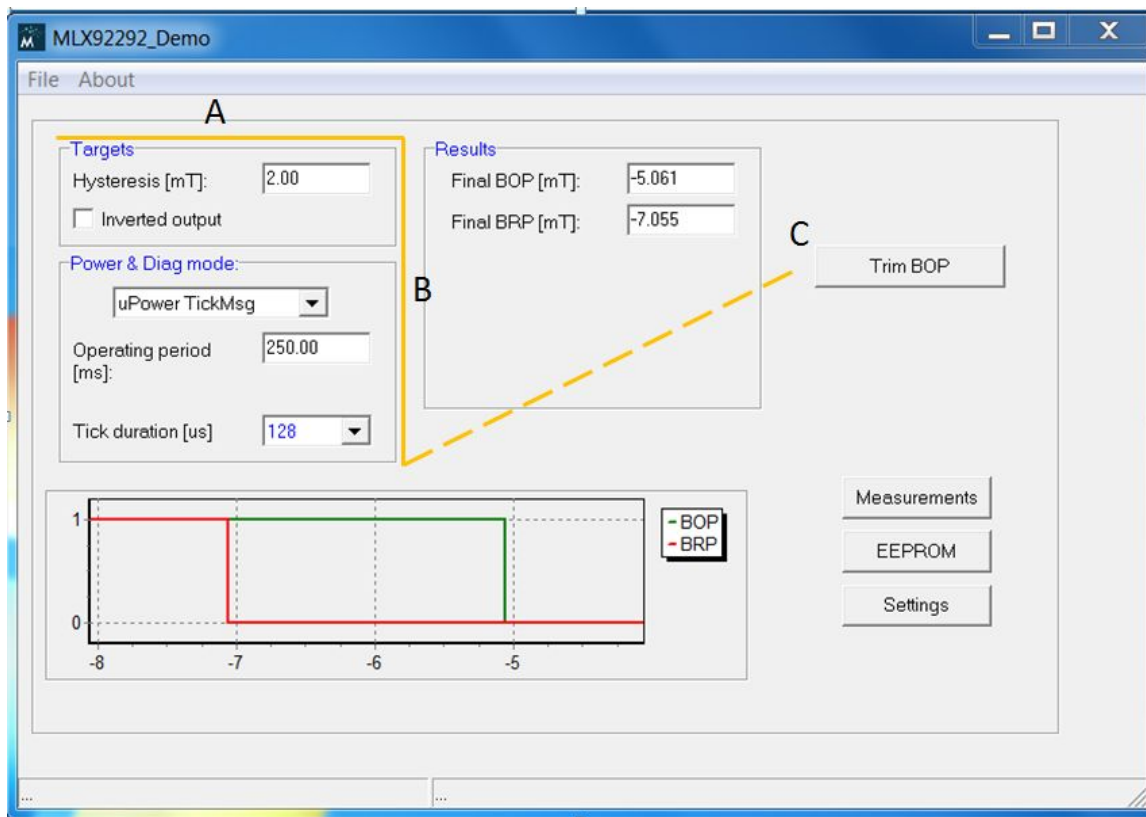

Figure 8 - Solver flow overview
- **Trimming BOP (C)**
- Press 'Trim Bop' button on the UI. The solvers measures BOP and calculates BRP based on the programmed hysteresis value. For example, in figure 8 the measured BOP was equal to -5.061mT. Therefore, BRP is determined as BOP - programmed hysteresis (2 mT in this case), resulting in -7.055mT.
- The red and green graphs at the bottom of figure 8 indicate the output behavior.
MLX92292 features several diagnostic modes. Each of these modes can be selected in MLX92292_Demo UI -> Power & Diag mode -> Drop down list just above the **operating period** box (see figure 8).
The EVB922xx UI 'Measurements' option can be accessed by clicking on the "Measurements" button (figure 8).
The EEPROM content of the e.g. MLX92292 can be analyzed and re-programmed through the "EEPROM" window on the MLX92292_Demo UI (accessible by clicking on the EEPROM button shown in figure 8). The EEPROM window is shown in figure 12.